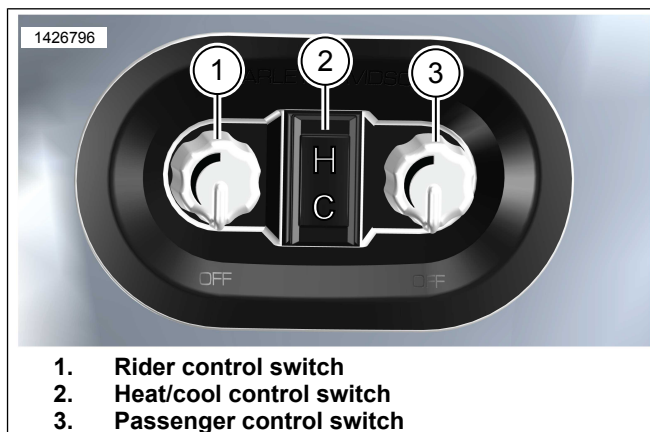

Figure 6. Seat Heating/Cooling Control Switches
1. See Figure 6. Rotary switches (1,3):
- d. Rider control (1) is located closest to rider's seating position.
- e. Passenger control (3) is located closest to passenger's seating position.
- f. Lowest setting, first detent, turns seating position OFF regardless of setting on the other control or heat/cool switch (2).
2. See Figure 6. Heat/cool switch (2):